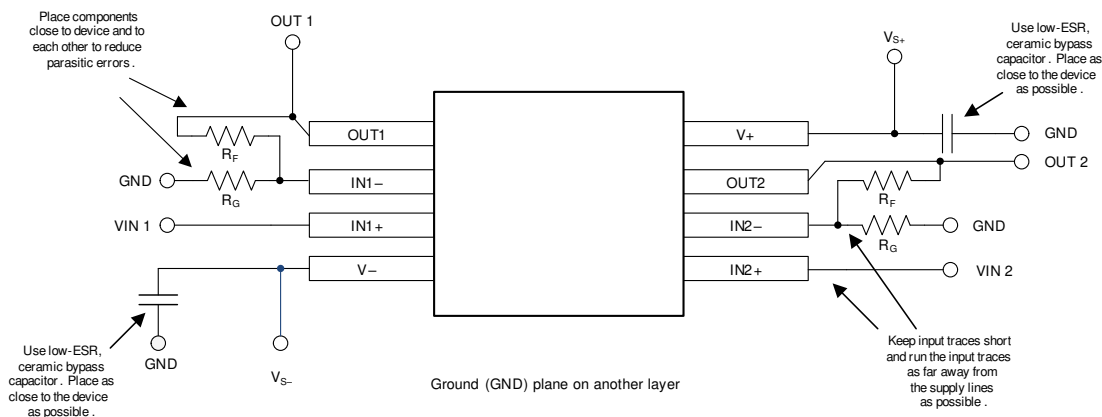

图 10-2. Layout Example
- Place the external components as close to the device as possible, as shown in Figure 10-2. Keeping  $R_F$  and  $R_G$  close to the inverting input minimizes parasitic capacitance.